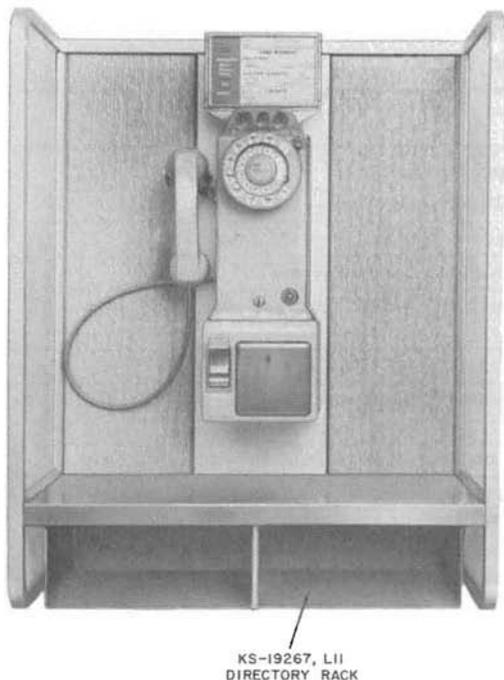

Fig. 2—KS-19267 Coin Telephone Shelf With KS-19267, List 11 Directory Rack
2.07 Telephone directories may be placed under the writing shelf in a rack (Fig. 2) or in a KS-20030 directory hanger (Fig. 1).